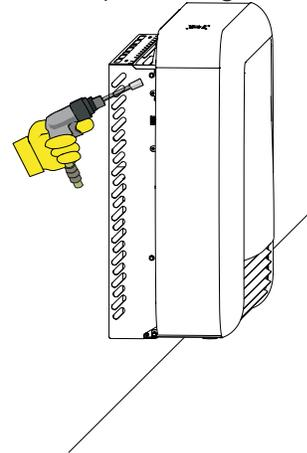

Figure 4
- Move the wall furnace into position on the wall mount shroud and secure in position using the four #10 x 1/2" hex-head screws removed in step 7. **See Figure 4.**